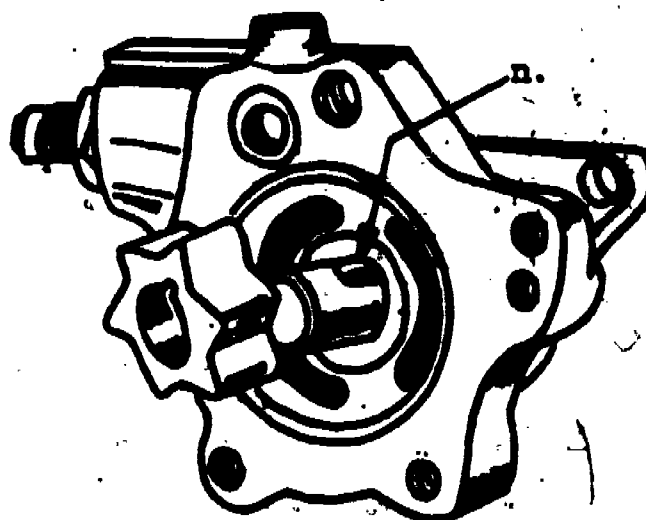

Figure 6
STEP 17. Remove the inner rotor drive pin (Item n in Figure 6) from shaft.